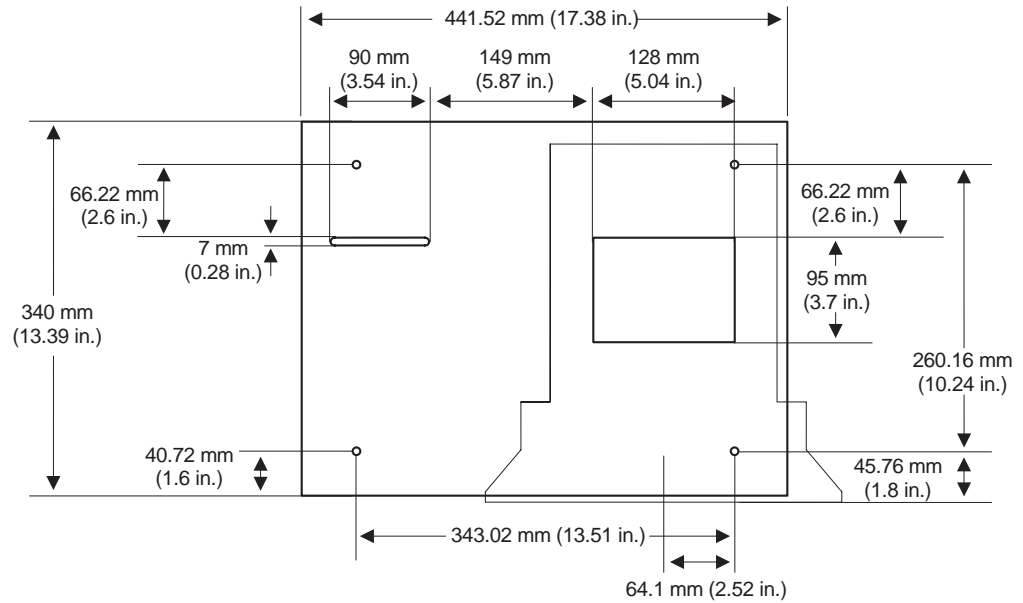
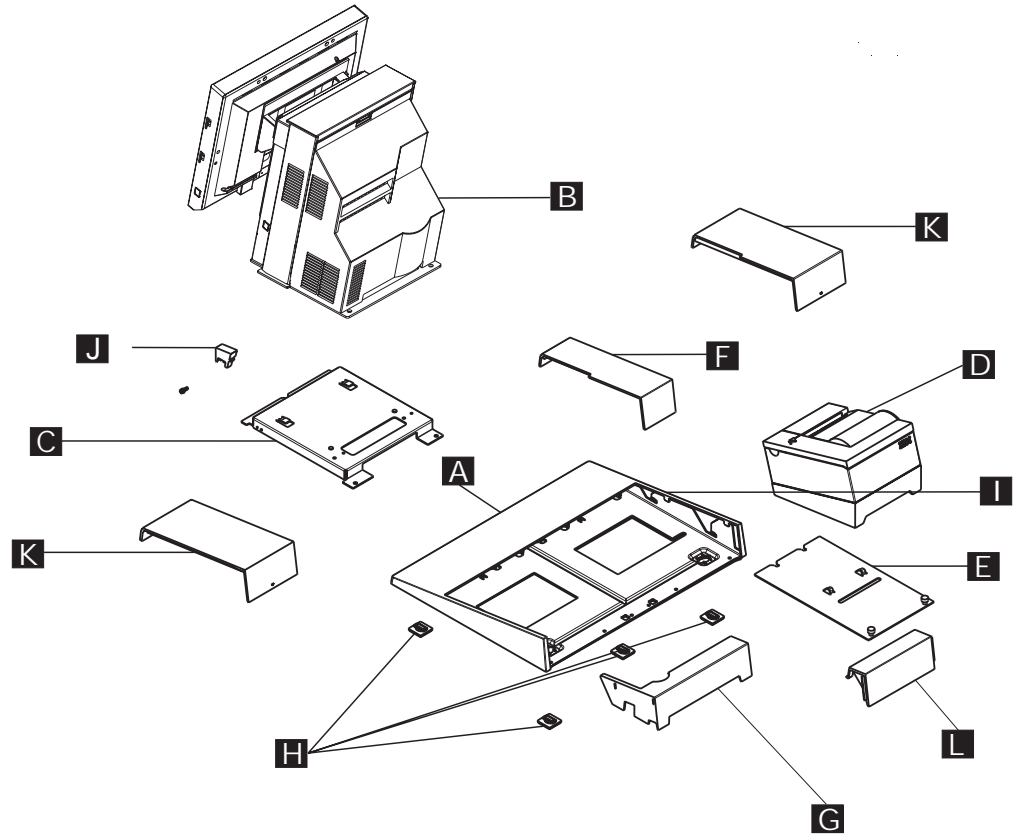

Figure 27. Countertop integration tray pattern with display and countertop cutout on right side
Figure 30. Overview of integration tray, SurePOS 500, printer, and filler panels
The countertop integration tray can be used as a free-standing unit or secured to a countertop using mounting screws. Use the countertop integration tray drawing that comes with it as a pattern for drilling the four mounting holes and for the cable opening, if you plan to route the cables through the countertop. Four screws (not provided) are required to mount the integration tray to a countertop. For specific mounting hole and cutout dimensions, see Figure 27 on page 43.
1. For a free-standing unit, ensure that the four rubber feet **H** are installed on the bottom of the countertop integration tray (as shown in Figure 30 on page 45).
- b. Drill the four mounting holes and cut a hole in the countertop for cables, if needed. Use Figure 27 on page 43 or the openings in the integration tray as a pattern for drilling mounting holes and a cable opening in the counter. See Figure 30 on page 45 for reference.
- c. Remove the four rubber feet located on the bottom of the integration tray. See Figure 30 on page 45 for the location of the feet.
6. Attach the SurePOS 500 and its mounting plate **C** to the right side of the integration tray **I** as shown in Figure 30 on page 45. Slide the front of the mounting plate under the appropriate pair of tabs on the tray and secure the rear of the mounting plate to the tray with two thumbscrews.
1. Install the mounting plate in the **center** of the base using the removable thumbscrews. See Figure 30 on page 45.
3. For installations **without a printer**, install the mounting plate in the *center* of the base using the removable thumbscrews. Place the filler panels on both sides. See Figure 30 on page 45. Install rear system panel **G** first and use filler panels **K** to lock in filler panel **G** onto the tray.